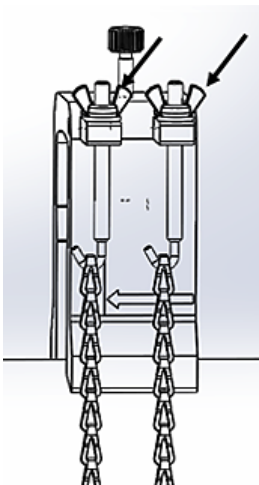

Figure 40: secure the yoke
- Tighten the nuts to secure the yoke to the pipe (see *Figure 40* below).